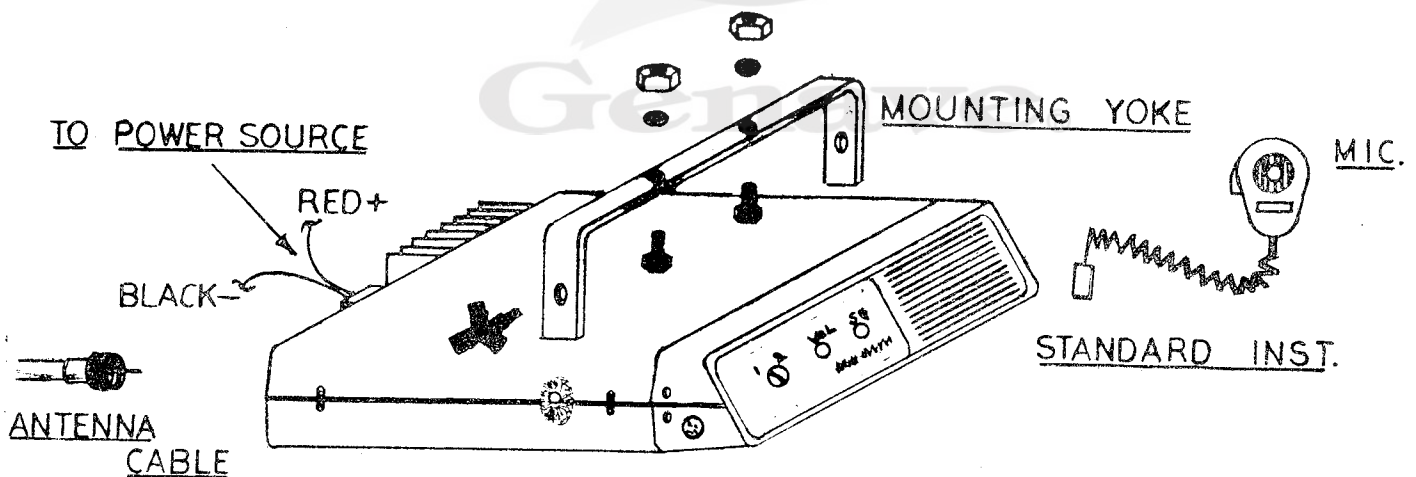

Figure 2-1. Typical Installation.
1. Refer to Figure 2-1. If mounting yoke has been installed on transceiver, remove yoke temporarily. For fixed operation, yoke may be repositioned on bottom side of unit to function as a supporting stand.